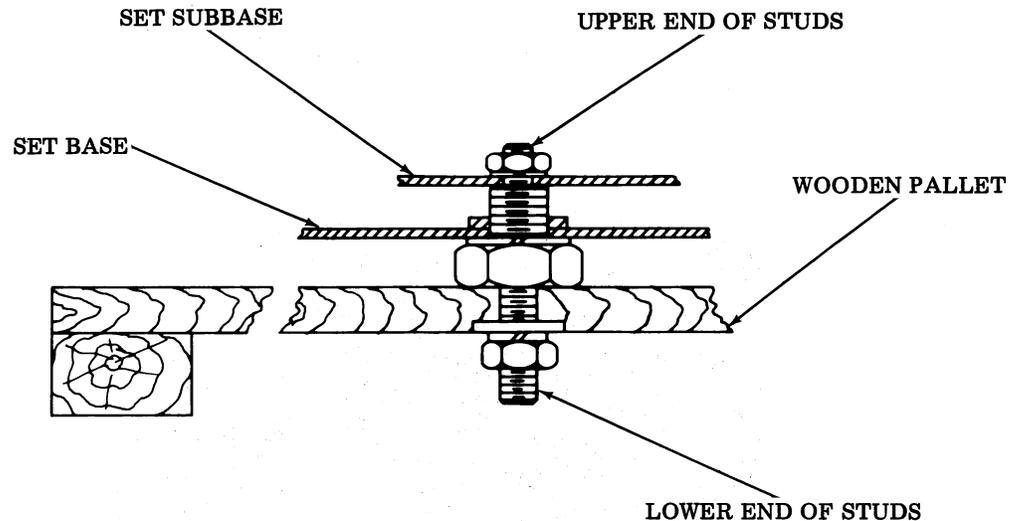

Figure 6 - Shipping Pallet and Mounting Studs
- (a) With cover removed, remove the four nuts and lockwashers from upper ends of the studs (Figure 6).